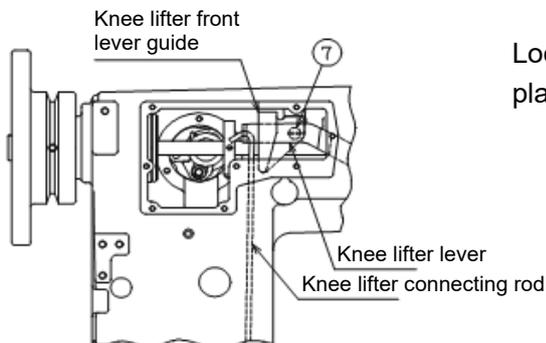

Fig. 17
Loosen the knee lifter front lever guide setscrew ⑦ (one place) and remove the knee lifter front lever guide. (Fig. 17)
Remove the knee lifter spring hooked on the knee lifter lever and loosen the knee lifter lever hinge screw ⑧ (one place). After this, remove the knee lifter connecting rod fitted into the end hole of the knee lifter lever from the knee lifter lever, and remove the knee lifter lever and the knee lifter connecting rod from inside the arm. (Figs. 17 and 18)